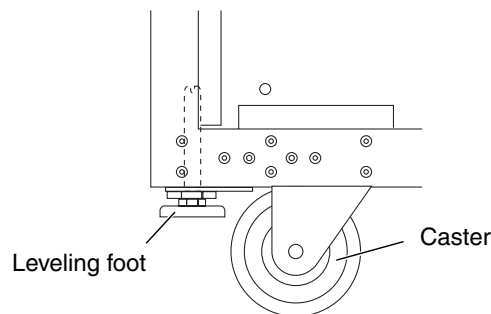

FIGURE 6-1 Retracted Leveling Feet
4. **Raise the leveling feet and ensure that they are fully retracted into the cabinet frame (FIGURE 6-1).**